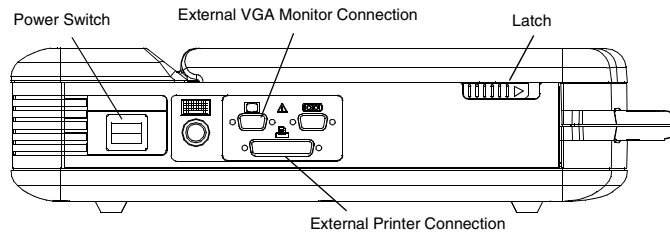

Figure 1. Left side panel of the PRM.
- c. Move the power switch to the ON ( I ) position (Figure 1).
- d. (Optional) Connect the external printer to the PRM using the parallel cable provided with the printer (Figure 1). The external printer must be connected and activated to allow external reports to be printed.
- e. (Optional) Connect the external monitor to the PRM using a standard VGA cable (Figure 1). The Model 6977 VGA Extension Cable is available from Guidant as an accessory.